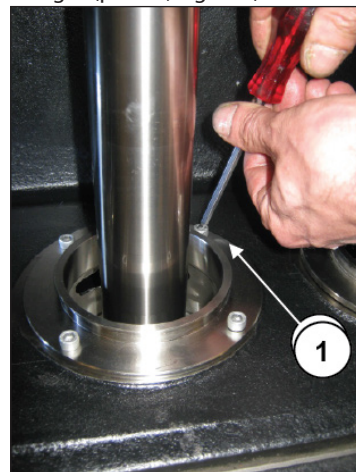

Fig. 158
Remove the bellows and undo the four M6 fixing screws of the three bellows flanges (pos. ①, Fig. 158).